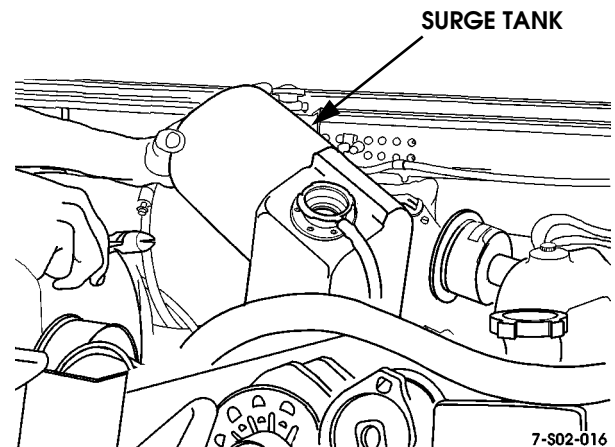

Figure 2-78: Surge Tank Removal/Installation
17. Remove surge tank (Figure 2-78).